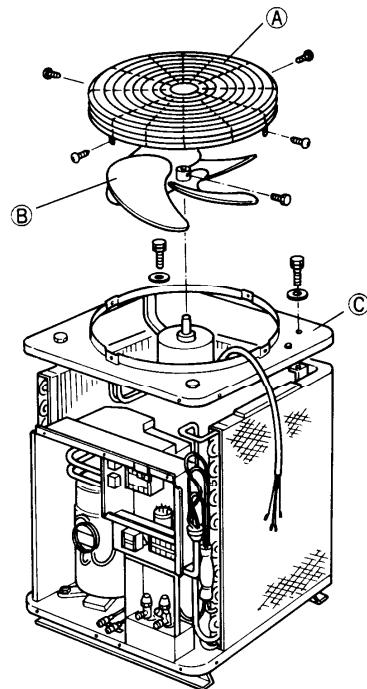

Fig. D-10
- 1) Remove the fan and fan motor by lifting up after removing the guard (A) and loosening one screw of the propeller fan (B).
- 2) Disconnect the fan motor wires from the electrical component box and, then remove the top cover (C) with fan motor. (See Figure D-10.)